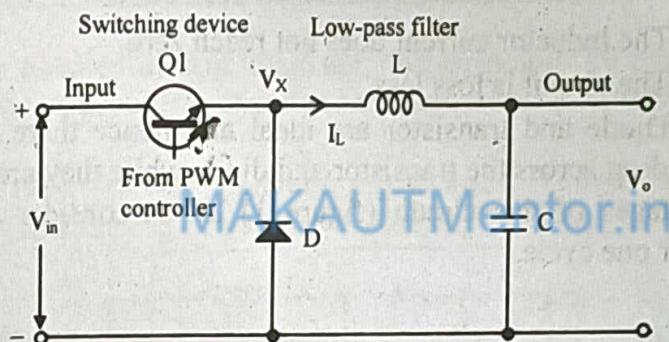

Fig: 1 Buck converter
Step down converter, as the name implies, provides an output voltage whose average value is less than the dc input voltage. Figure 1 shows the basic circuit arrangement of such a converter which contains the power BJT (Q1) as a switching device. When the switch is closed, the inductor L stores energy and releases its energy to the load through the flywheel diode when Q1 is off.
**Step 1:** The transistor is turned ON. The following events occur (refer to fig. 1).